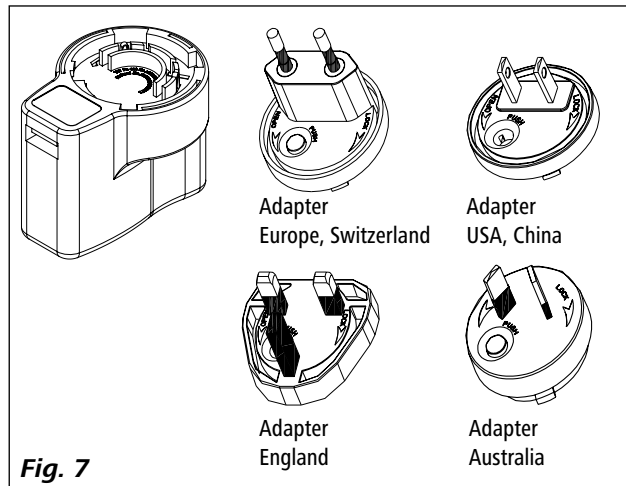

Fig. 7
- **OS 1.0** power supply (for **WiCo**) see **Fig. 7**